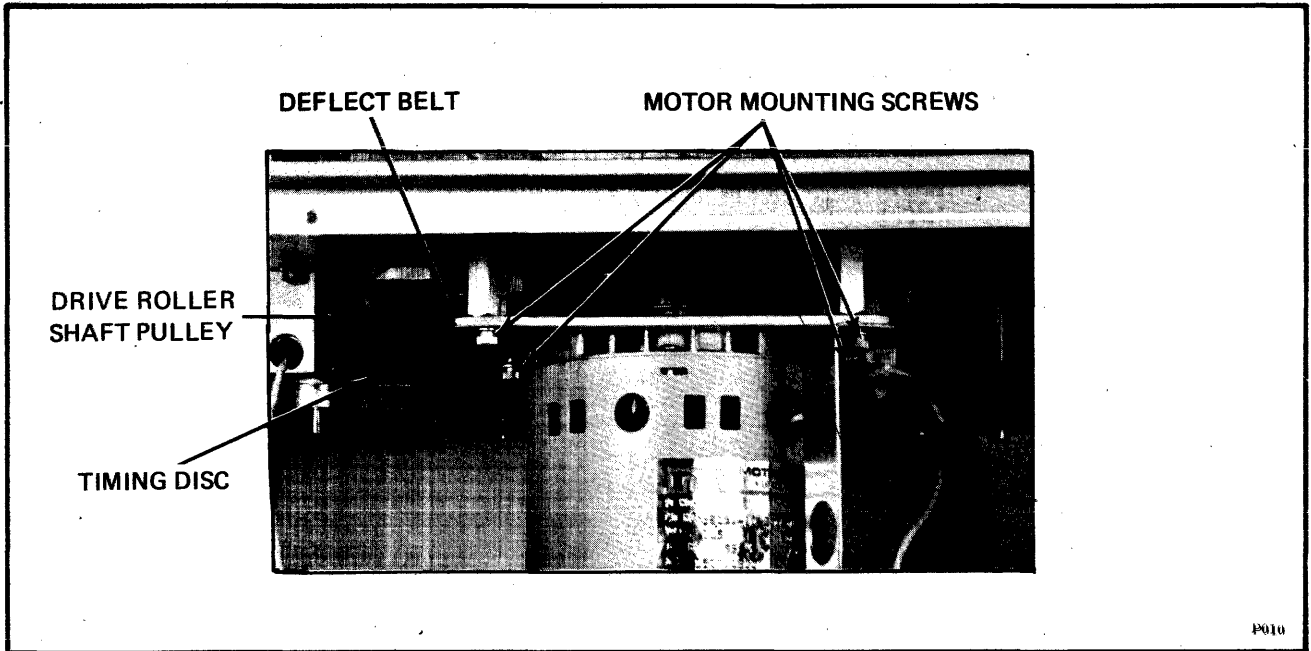

Figure 6-3. Drive Motor Belt Tension Adjustment
- a. LOOSEN four motor mounting plate screws, Figure 6-3.